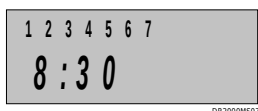

Figure 6b.
- Select all the days of the week, 1 through 7 appear together (recommended).** Fig. 6b. indicates that the event will occur everyday at 8:30 AM